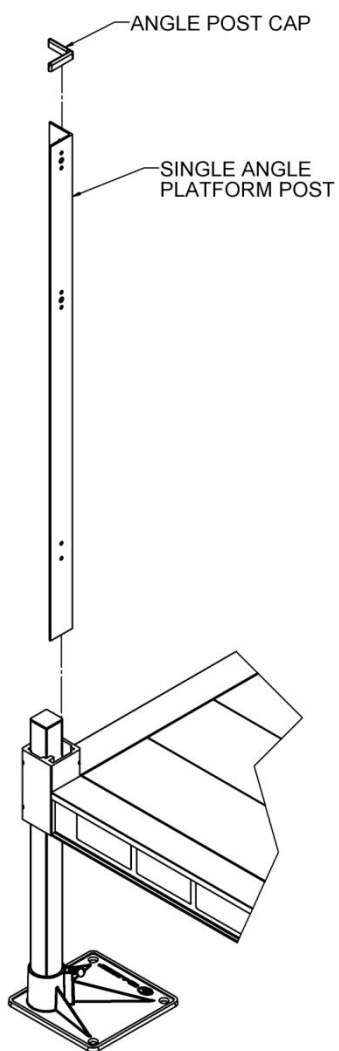

FIG. 6.7
- 6.2.1. If needed, drop a single angle post into corner pocket on platform and tighten two set screws with a 3/16" Allen wrench (refer to FIG. 4.4 for post set screw locations). Make sure the two sets of holes which are closest together are on top and the bottom of the post aligns with the bottom of the corner pocket as shown (FIG. 6.7).